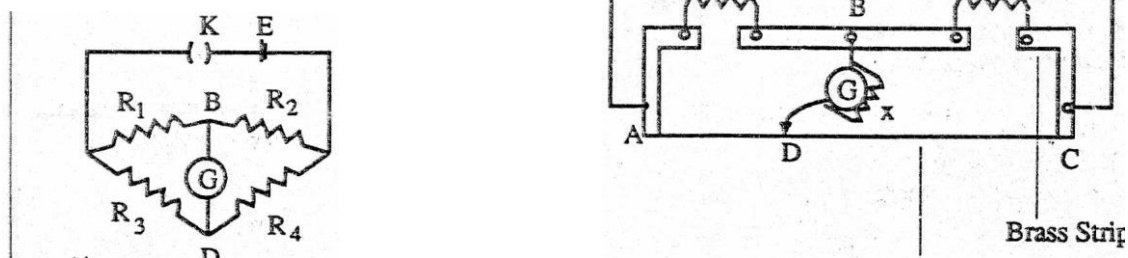

Fig. 28
The metre-bridge is a convenient form of the Wheatstone bridge arrangement (Fig. 28 (i)). When the switch K is closed and the resistances are such that when no current flows through the
The metre-bridge consists of a one meter length of uniform resistance wire AC (Fig. 28(ii)) alongside a metre rule, and soldered at A and C using brass strips of negligible resistance. A third brass strip is arranged as shown in the figure. Since the resistance of a uniform wire is proportional to its length, then, if D is the balance point:
1. Connect the metre bridge as shown in Fig. 28 (ii), with the thermistor S immersed in glycerine.